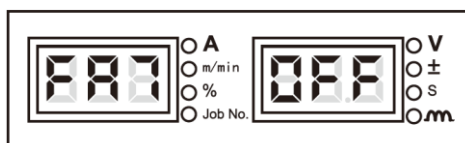

Figure 3-37 Screen for FA7 display
1. Enter the internal menu, adjust the knob on the panel of welding power source to **FA7**, the digital tubes will display as shown in Figure 3-37.